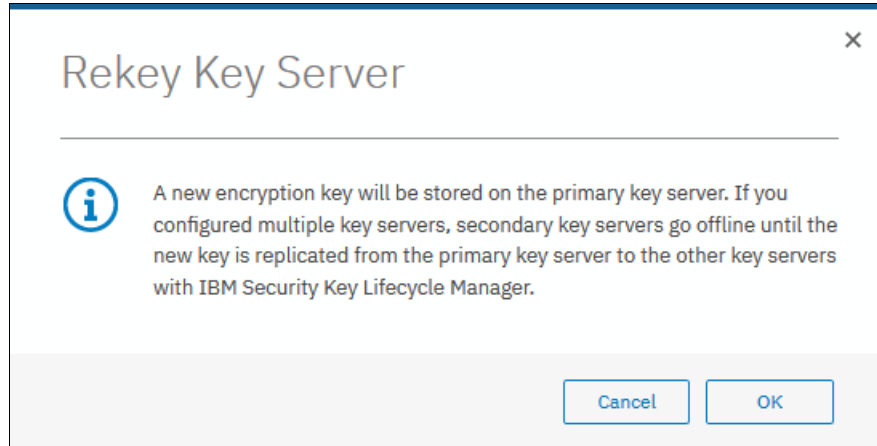

Figure 13-84 Confirm key server rekey operation
3. Click **Yes** in the next window to confirm the rekey operation, as shown in Figure 13-84.